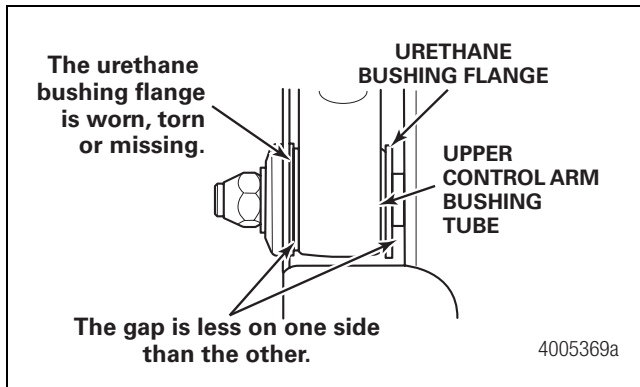

Figure 9.10
- B. The upper control arm and bushing have shifted slightly to one side. The bushing flange is worn, torn or missing. You don't find significant wear between the upper control arm and the frame bracket or axle seat. The free play gap is less on one side than the other side. Figure 9.10.